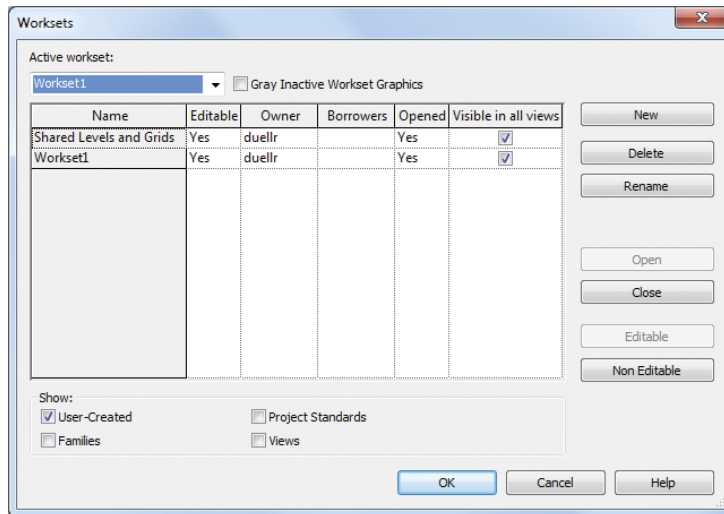

FIGURE 10.3 Worksets dialog box
3. The Worksets dialog box (Figure 10.3) opens next. Your username appears in the Owner field. Currently, you own everything in the project since you enabled worksharing. Click OK to continue.